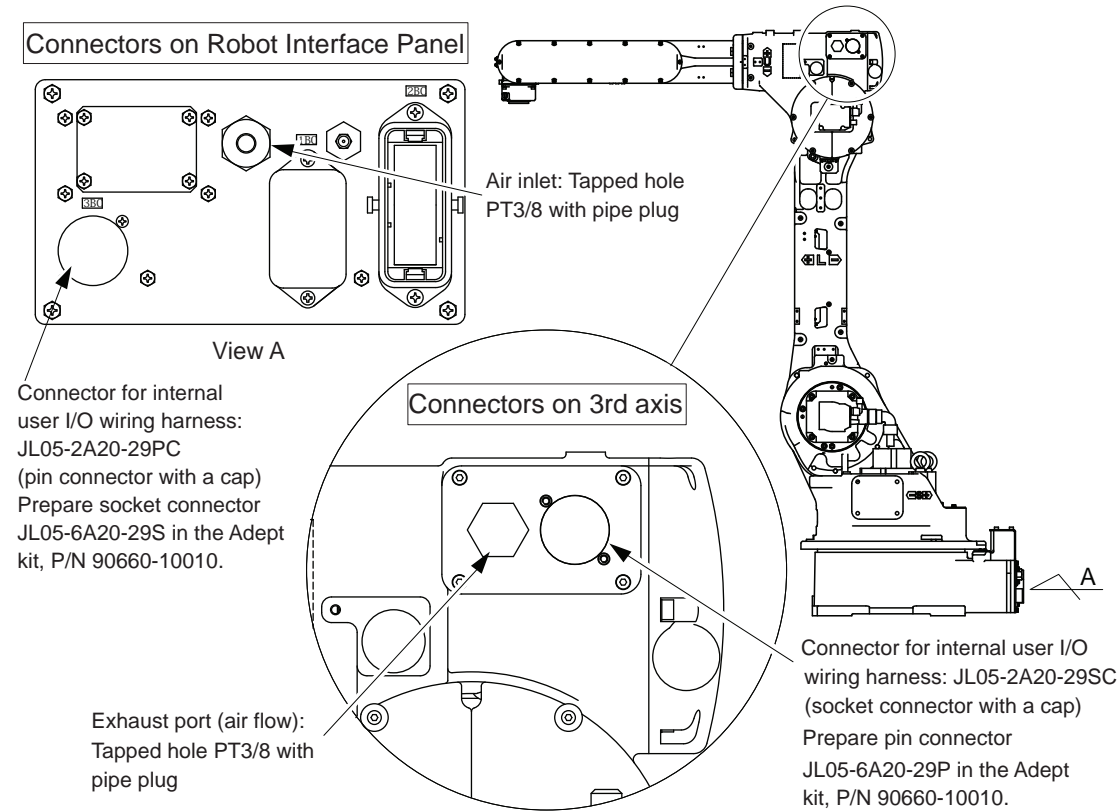
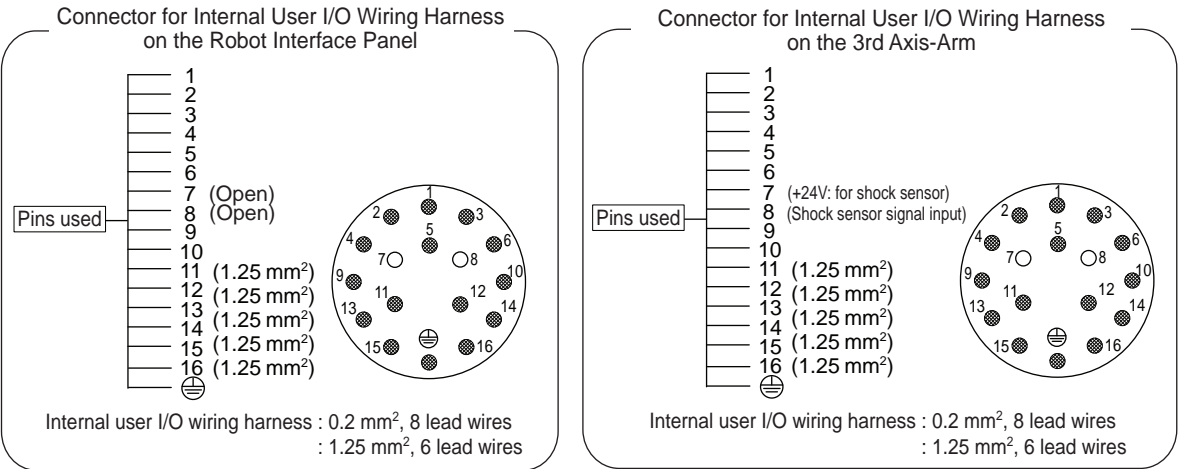

Figure 2-10. Internal User I/O Wiring Harness and Air Line
Figure 2-11. Connector Pin Numbers
**3BC** - Internal user I/O wiring harness (0.2 mm2 x 10 conductors and 1.25 mm2 x 6 conductors). Pins 1 to 16 are wired directly to corresponding pins 1 to 16 on the upper arm. The connector pins are assigned as shown in Figure 2-11 on page 33. The user must perform the wiring. The allowable current for cables is 3 A or less for each cable. The total current value for pins 1 to 16 must be 40 A or less. See also Figure 2-10 on page 33.
**AIR inlet** - air piping connector (PT 3/8 with pipe plug) for driving peripheral devices on the upper arm. See also Figure 2-10 on page 33. The maximum pressure for the air lines is 490 kPa (4.9 Bar) or less. The inside diameter is 6.5 mm.